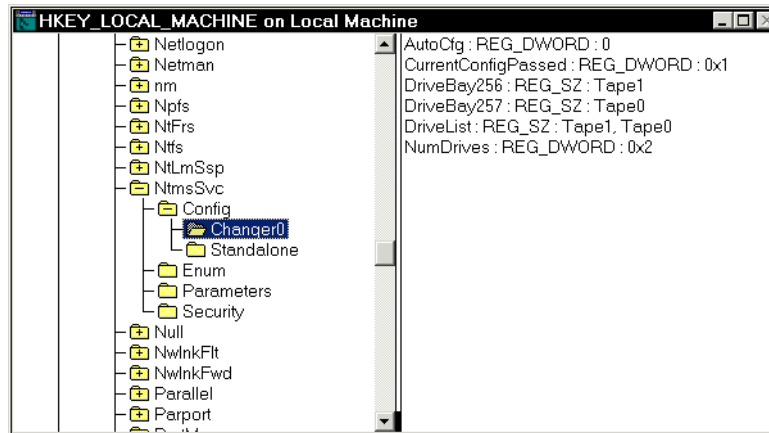

Figure 5-9 Registry changer key
- ▶ Locate the following registry key (as shown in Figure 5-9):